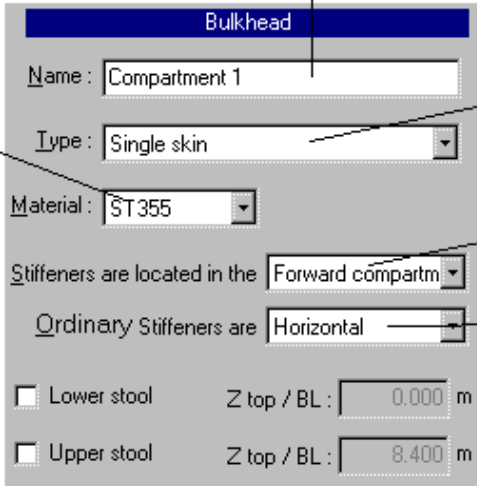

Figure 9 : BULKHEAD MANAGEMENT WINDOW
- the Bulkhead management window (Figure 9) is displayed,